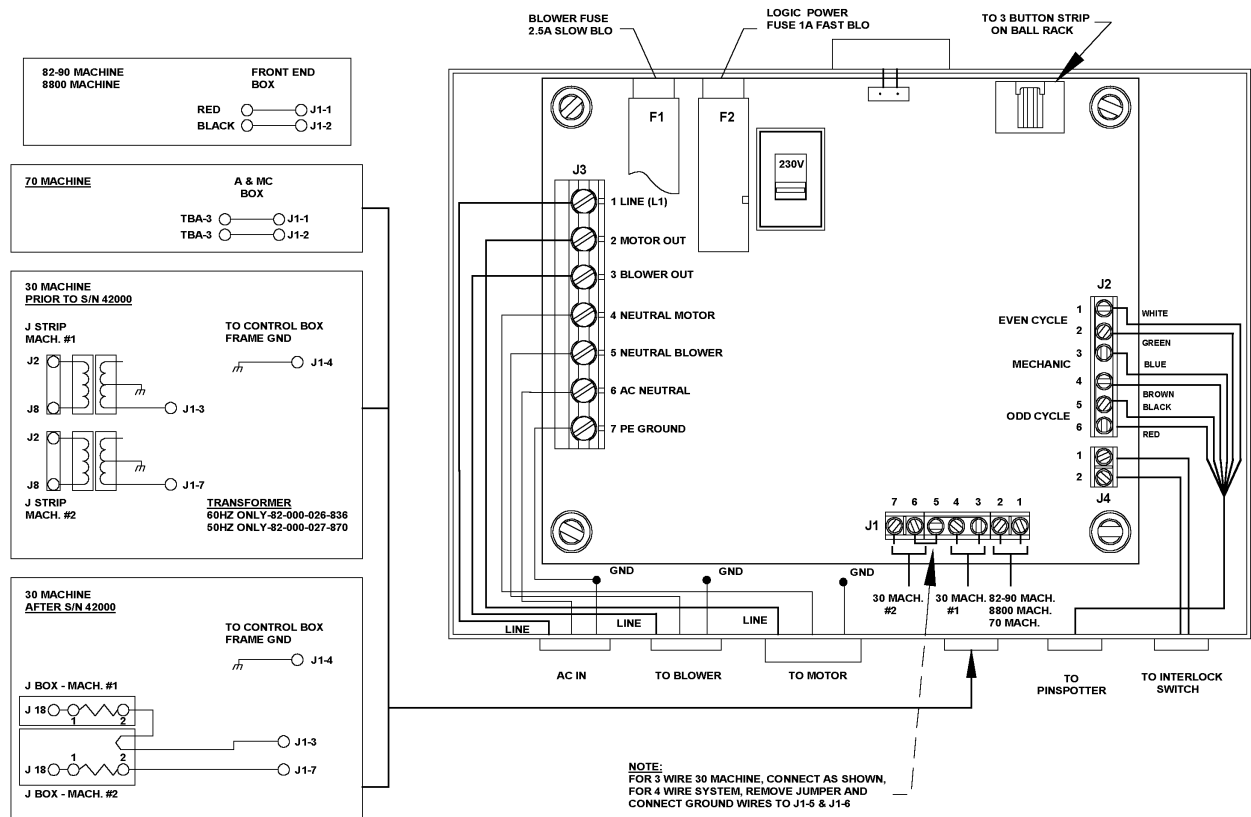

Figure 14, Electrical Connections
5. Attach the power supply cable's flexible conduit to the control box at the "AC IN" location shown in Figure 14.
8. Connect the blue wire (neutral) to terminal #6 on junction block **J3** and the brown wire (line) to terminal #1 on **J3** (see Figure 14).
9. Strip approximately 3/8-inch of insulation from the ends of the brown and blue blower wires (the blower wires exit the end of a ball rack's rail assembly). Route this cable into the control box (see Figure 14). Tighten the cable clamp to secure the cable to the box.
12. Depending on the specific pinspotters in your bowling center, connect the pinspotter's control wires to junction block **J1** as shown in Figure 14.